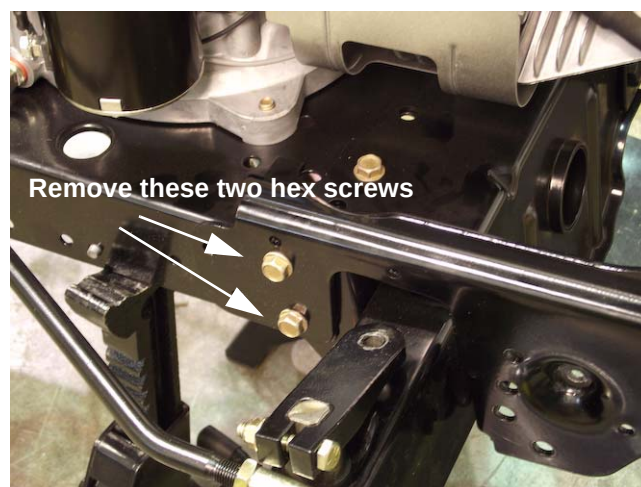

Figure 3.8
7. Remove the two hex screws that fastens the hood pivot bracket to the frame. Repeat for the other hood bracket. See Figure 3.8.